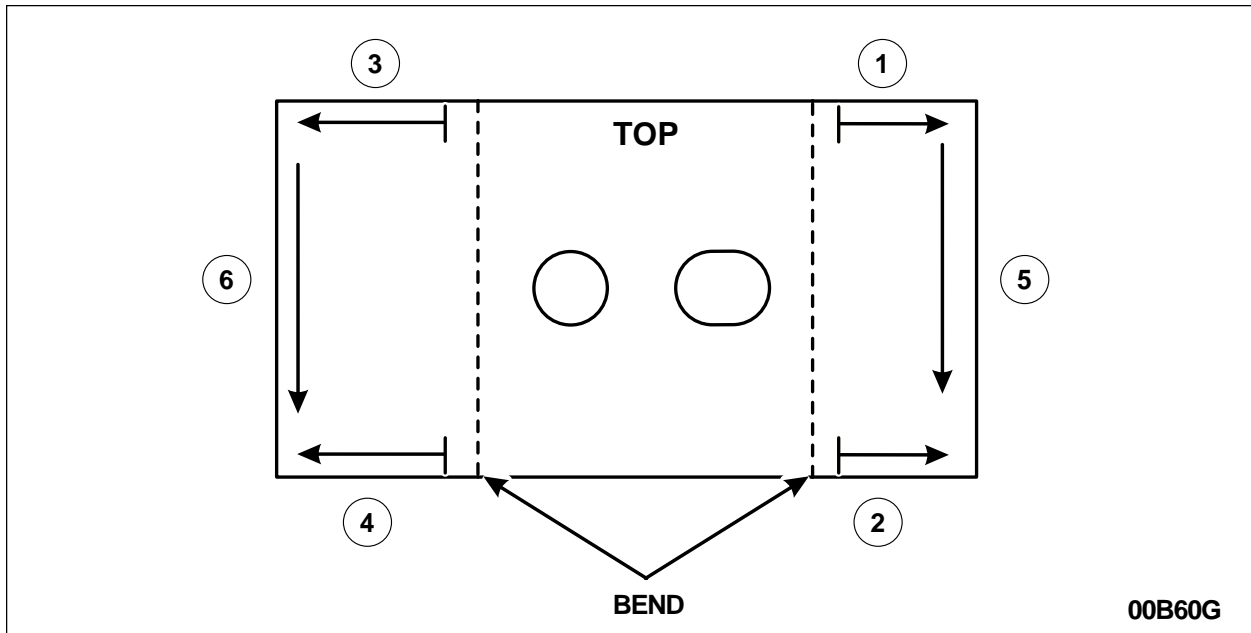

FIGURE 7
3. Tack weld the upper control arm mount reinforcement bracket into place. Remove the clamp(s). Then finish weld the bracket following the sequence and direction as indicated in the illustration. See Figure 7.